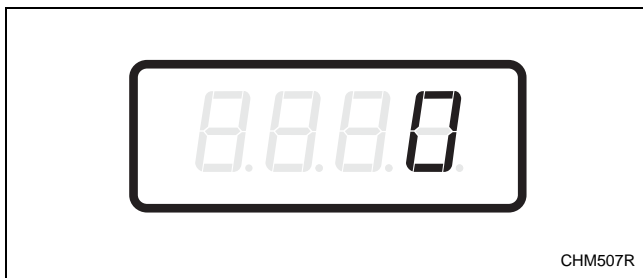

Figure 21
2. When “SA17” appears in the display, press the START (enter) keypad. There are five digits in the Special Vend A Quick/Hot Vend Price. The fifth digit will appear in the display and will flash one (1) second on and one (1) second off. Refer to *Figure 21*.